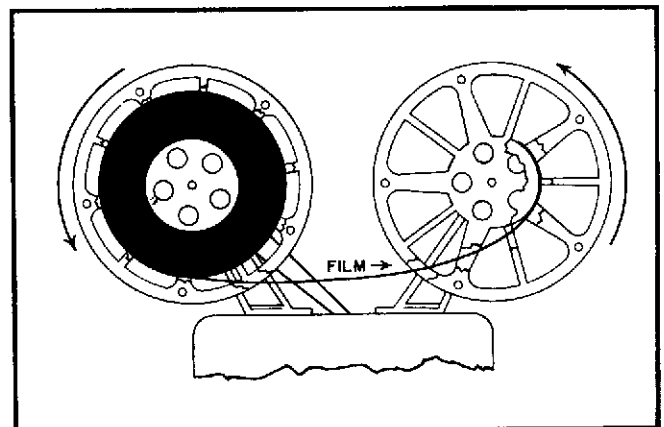

Figure 1-22. Film Threaded for Rewinding
b. To rewind the film on the projector, unwind about three feet of film from the take-up reel and pass the film directly from the bottom of the take-up reel to the right side of the empty reel (figure 1-22). Engage the free end of the film in the slot of the empty reel hub. Rotate the empty reel one or more turns in a counterclockwise direction to make certain that the film has engaged the reel properly. Both the full reel of film and the empty reel of film should turn in a counterclockwise direction. No twisting, changing or removing of the belt is necessary.